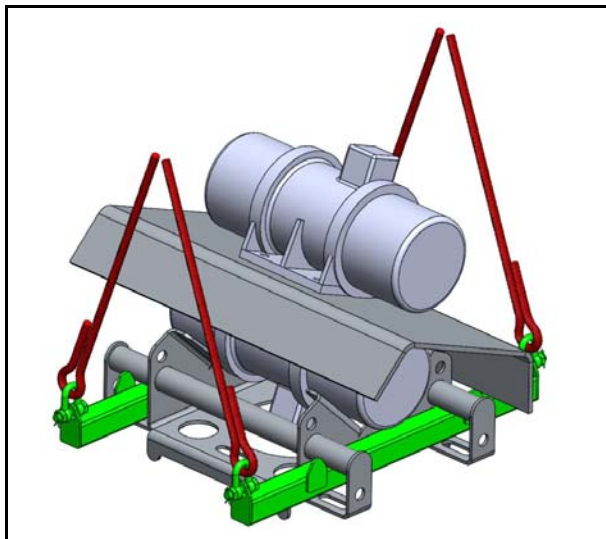

Figure 8-5 Drive Installation Tool with Lifting Extensions Inserted at Forklift Lifting Slots
4. If the drive is to be installed or removed from a spot where the original lifting eyes cannot be utilized, extensions may need to be inserted at the forklift lifting points (Figure 8-5).